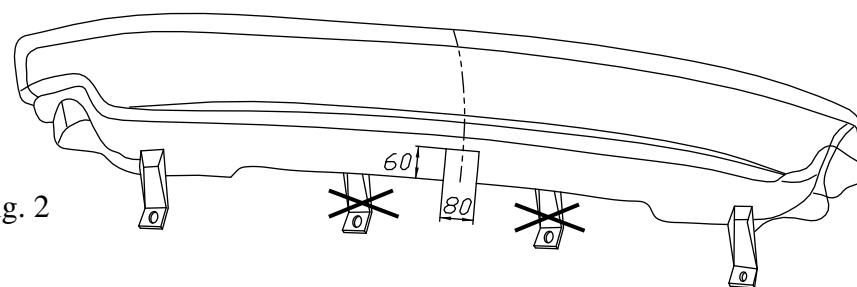

Fig. 2
1. Disassemble rear lights unit and bumper. Cut out handles of the bumper and saw off fragment in its axis according to figure 2.
4. Underneath the car drill holes A and B into boot using bit $\varnothing 11\text{mm}$. Inside boot apply fish-plates (pos. 4 and 5). Mark holes C and D. Remove fish-plates and drill marked points C and D by bit $\varnothing 11\text{mm}$.
7. Into drilled holes put suitable distance sleeves (pos. 6, 7, 8 and 9) as shown in the drawing.
8. Inside boot apply fish-plates (pos. 4 and 5). Put in bolts M10x110mm (pos. 10) and M10x100mm (pos. 11).
9. Underneath the car, on protruding bolts apply main bar of the towbar (pos. 1) and fix as shown in the drawing.
11. Fix body of the automat and place tow-ball according to supplied instruction. Note! Remember to place socket plate (pos. 3) as shown on the drawing 1.